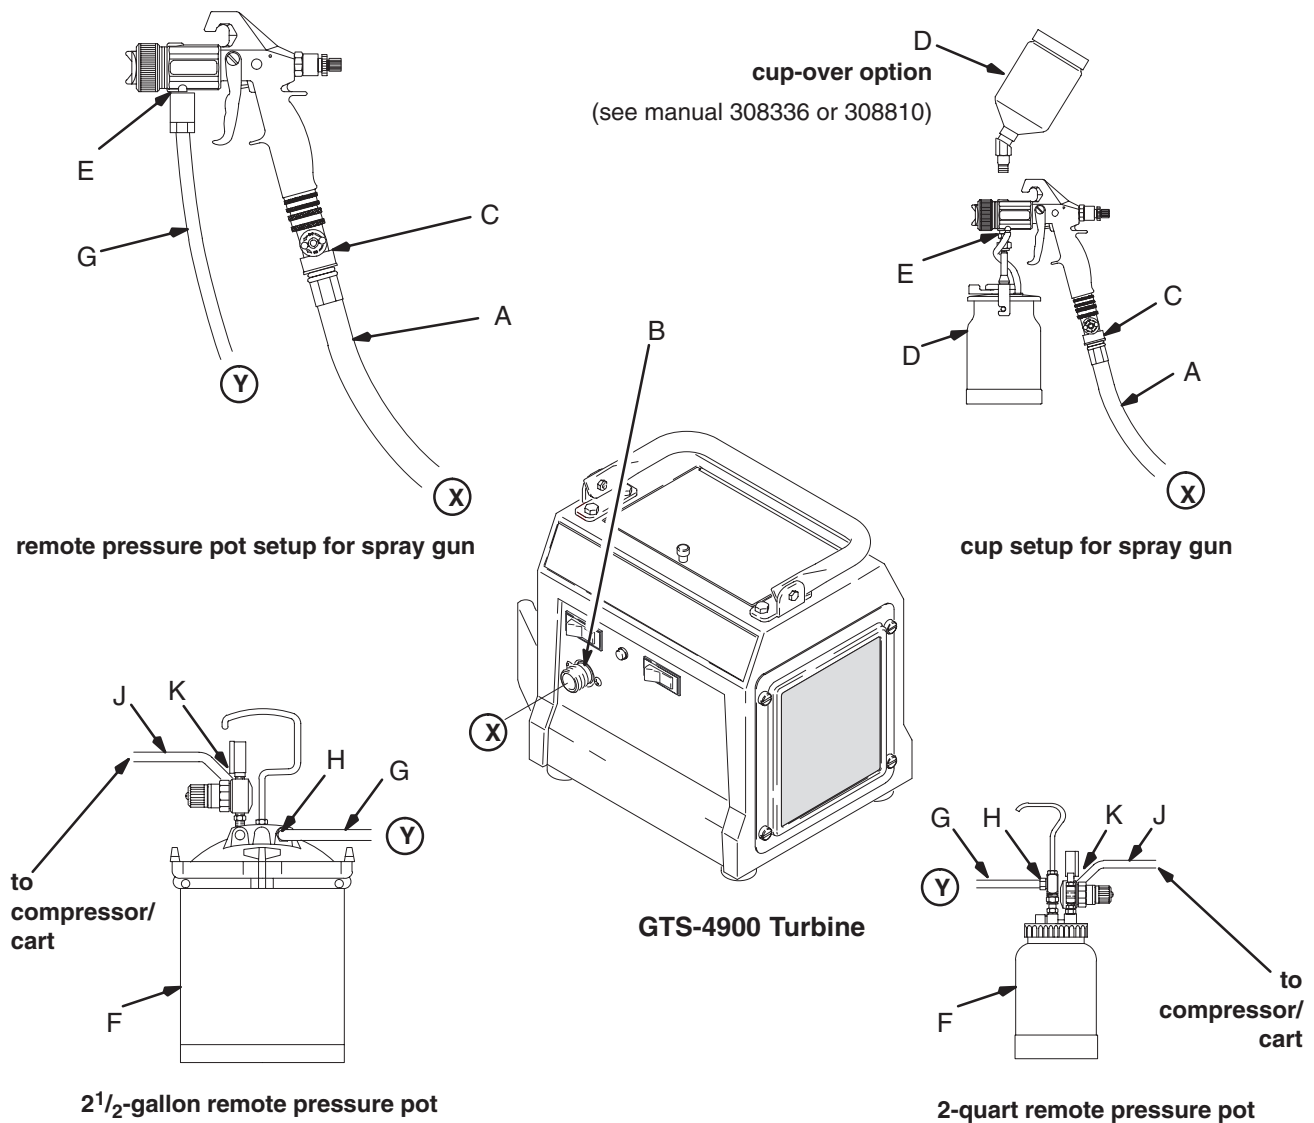

Fig. 3
HVLP Turbine Sprayers have a variety of user options. See Fig. 3.
See Fig. 3
- The circled letters in Fig. 3 indicate hose line connections.
1. Connect gun air supply hose (A) between turbine air outlet (B) and gun air inlet (C). DO NOT use wrench to tighten connections; hand tighten only. The GTS-4900 turbine uses a quick connector at outlet (B). A wrench is not required for hose connection.
2. If using a spray gun cup (D):